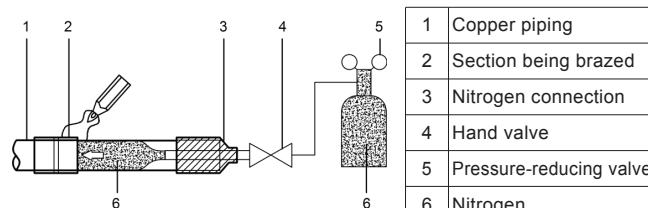

Figure 4.3
- When the pipe is filled with nitrogen during welding, the nitrogen must be reduced to 0.02 MPa using the pressure release valve. See Figure 4.3.